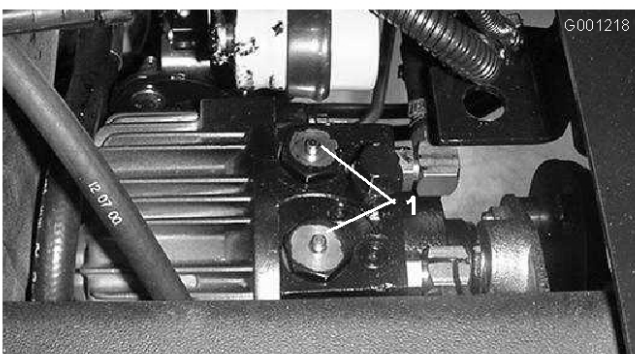

Figure 30
2. Press and hold the pins located in the center of the 2 check valve assemblies in the top of the transmission (Figure 30) while pushing or towing the machine. Figure 30 is shown with seat and seat mounting plate removed.